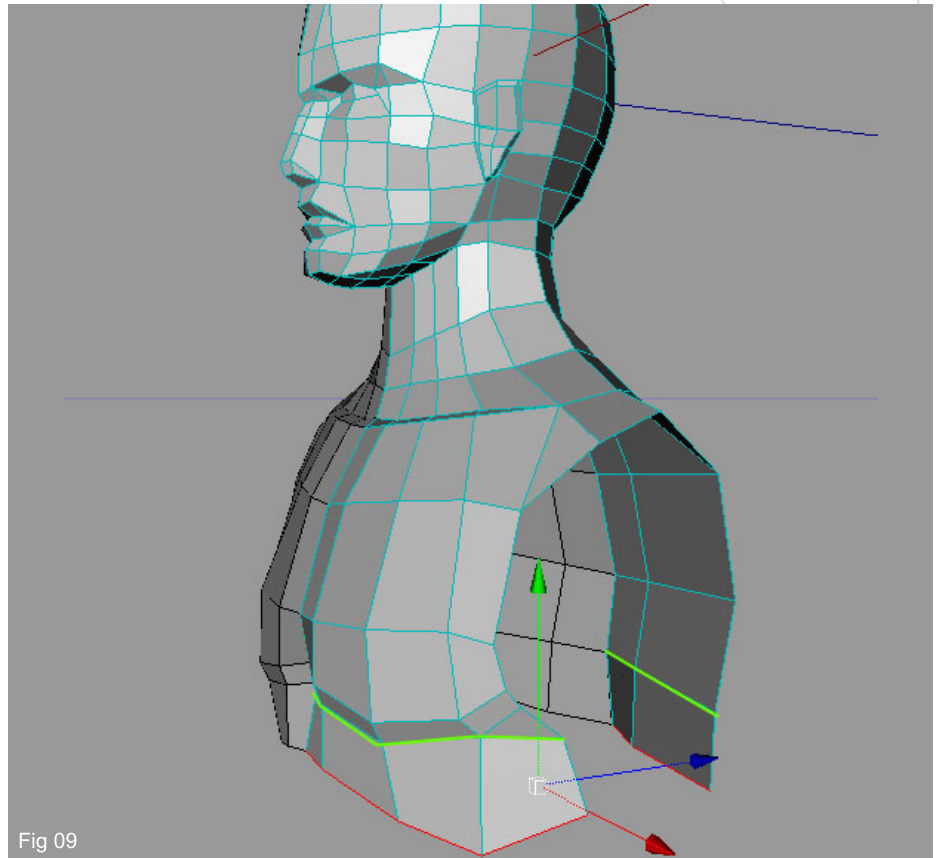

Fig 09
9. Another extrusion to start off the abdomen and lower back areas. (Fig09)